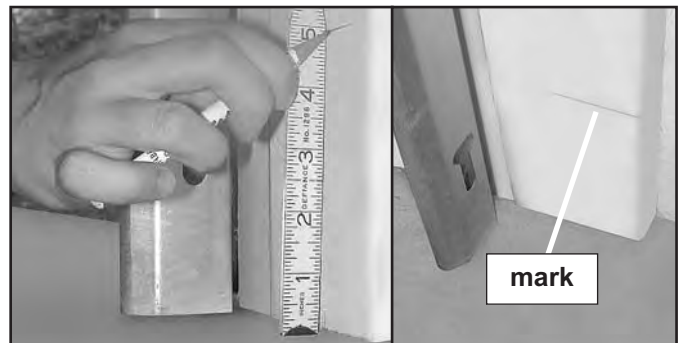

FIG. 4-1 Mark door frame.
- Mark both sides of garage door frame or wall at a height no higher than 6" and no lower than 5" above floor (**Fig. 4-1**).